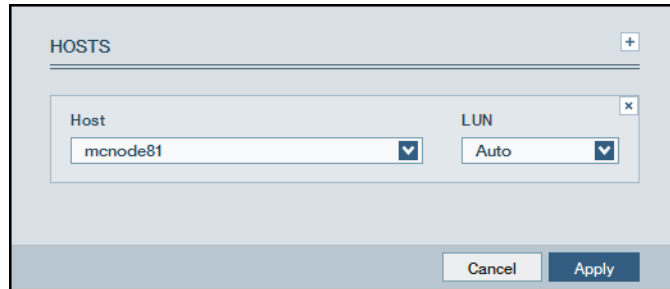

Figure 3-23 Select the host to map
- In the window that opens, select the new host from the drop-down selection and the LUN ID to map it to. Click **Apply** to map the volume, as shown in Figure 3-23.